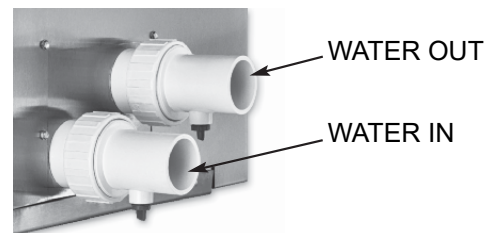

Figure 3. Water Connections
7. Drain plugs are located on each union fitting as shown in Figure 3 for draining the system during winterizing.
NOTE: While it is possible to mount the upper union with the drain plug vertically, Raypak has determined that installing both unions with the drain plugs facing down as shown in Figure 3 provides for the best draining of the system.